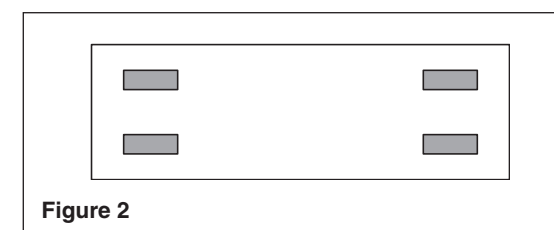

Figure 2
2. Affix the fastening tape to the bottom of the instrument as shown in Figure 2.